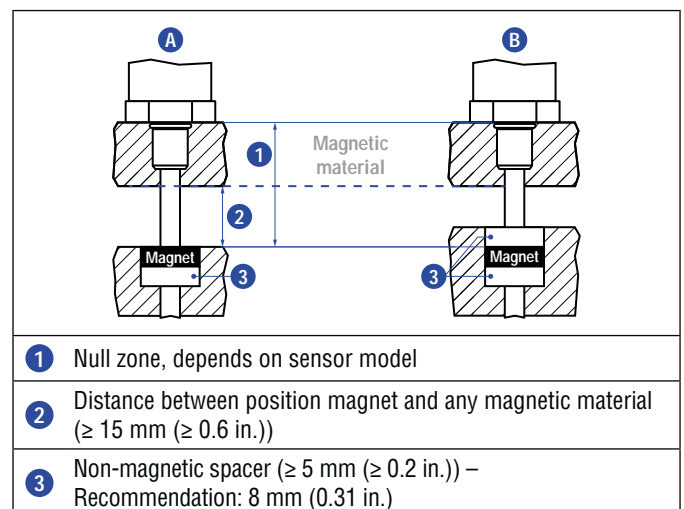

Fig. 32: Installation with magnetic material
- Minimum distance between position magnet and any magnetic material has to be 15 mm (0.6 in.) (Fig. 32)
- If no other option exists and magnetic material is used, observe the specified dimensions (Fig. 32)
When using magnetic material the dimensions of Fig. 32 must be observed.